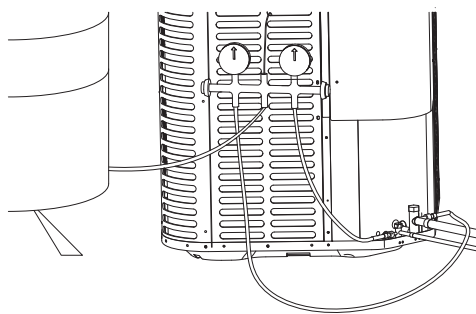

Figure 14-5
- Connect gages to refrigerant bottle and unit as illustrated (Fig. 14-5).